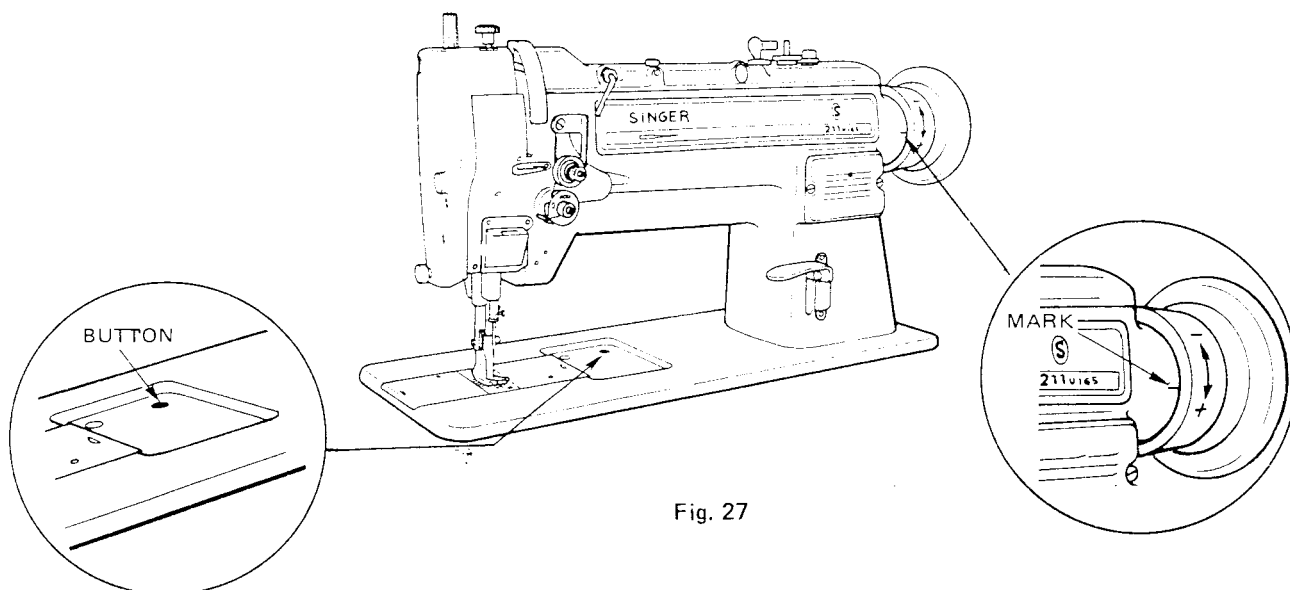

Fig. 27
1. With machine OFF, depress button shown in Fig. 27 on bed surface. NEVER DEPRESS BUTTON WHEN MACHINE IS RUNNING.